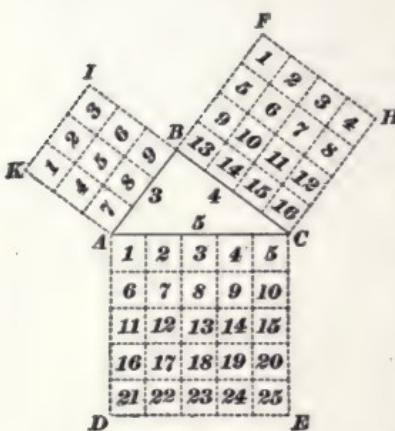

FIG. 28.
**58.** In any right triangle, the square described on the hypotenuse is equal to the sum of the squares described upon the other two sides. If  $A B C$ , Fig. 28, is a right triangle right-angled at  $B$ , then the square described upon the hypotenuse  $A C$  is equal to the sum of the squares described upon the sides  $A B$  and  $B C$ . Hence, having given the two sides forming